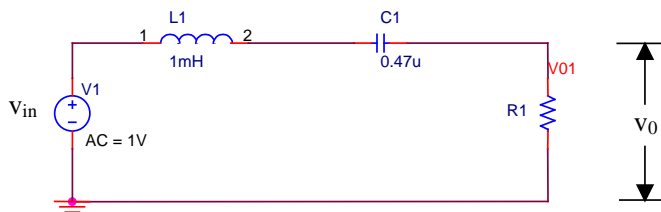

Figure 2 RLC Series Circuit.
2. Consider the circuit of Figure 2. Let the circuit be excited by a sinusoidal source whose frequency can be varied from 100 Hz to 100 KHz. Use PSpice to obtain a plot of $|v_o/v_{in}|$ versus frequency for two different values of R1 (47Ω and 220 Ω). Obtain the two required plots on the same graph (by creating two circuits in the same Schematics file). **In Probe, set the x axis setting of the plot to log scale.**
- 2.1 Experimentally determine $|v_0/v_{in}|$ as a function of frequency for the circuit of Figure 2 for values of R_1 equal to $47\ \Omega$. Take more readings near the frequency of interest. Use the DMM.